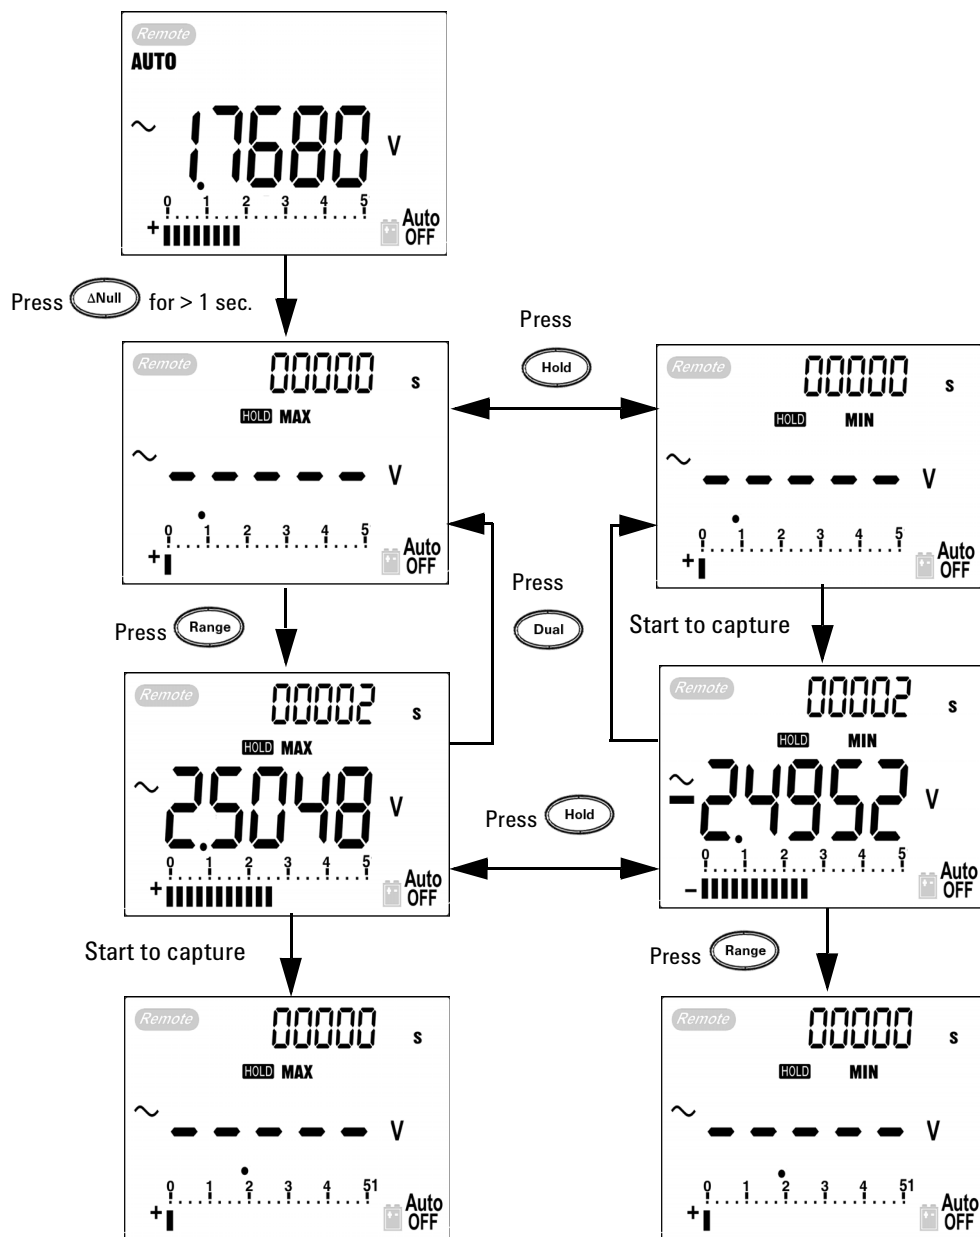

Figure 3-6 1 ms peak hold mode operation
- 4 According to the measurements in Figure 3-6 on the next page, the crest Factor will be $2.5048/1.768 = 1.416$.